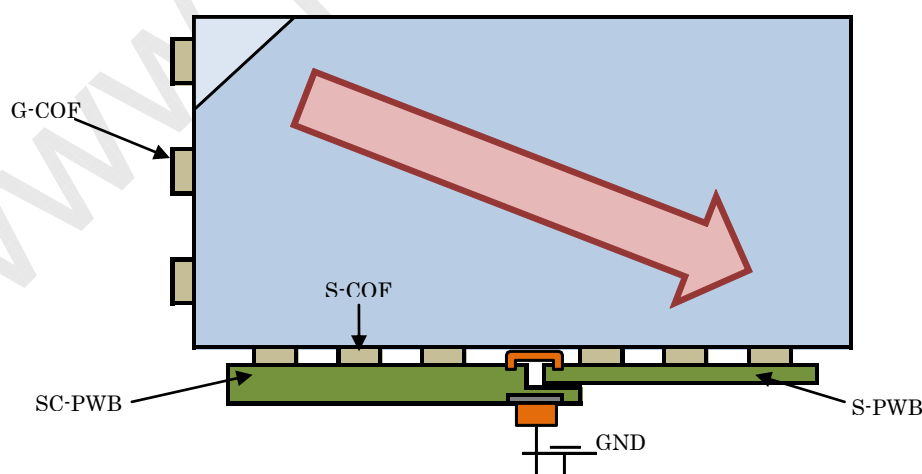

Fig.15-1 Direction of peeling off
- Peeling direction shown in the Fig. 15-1.